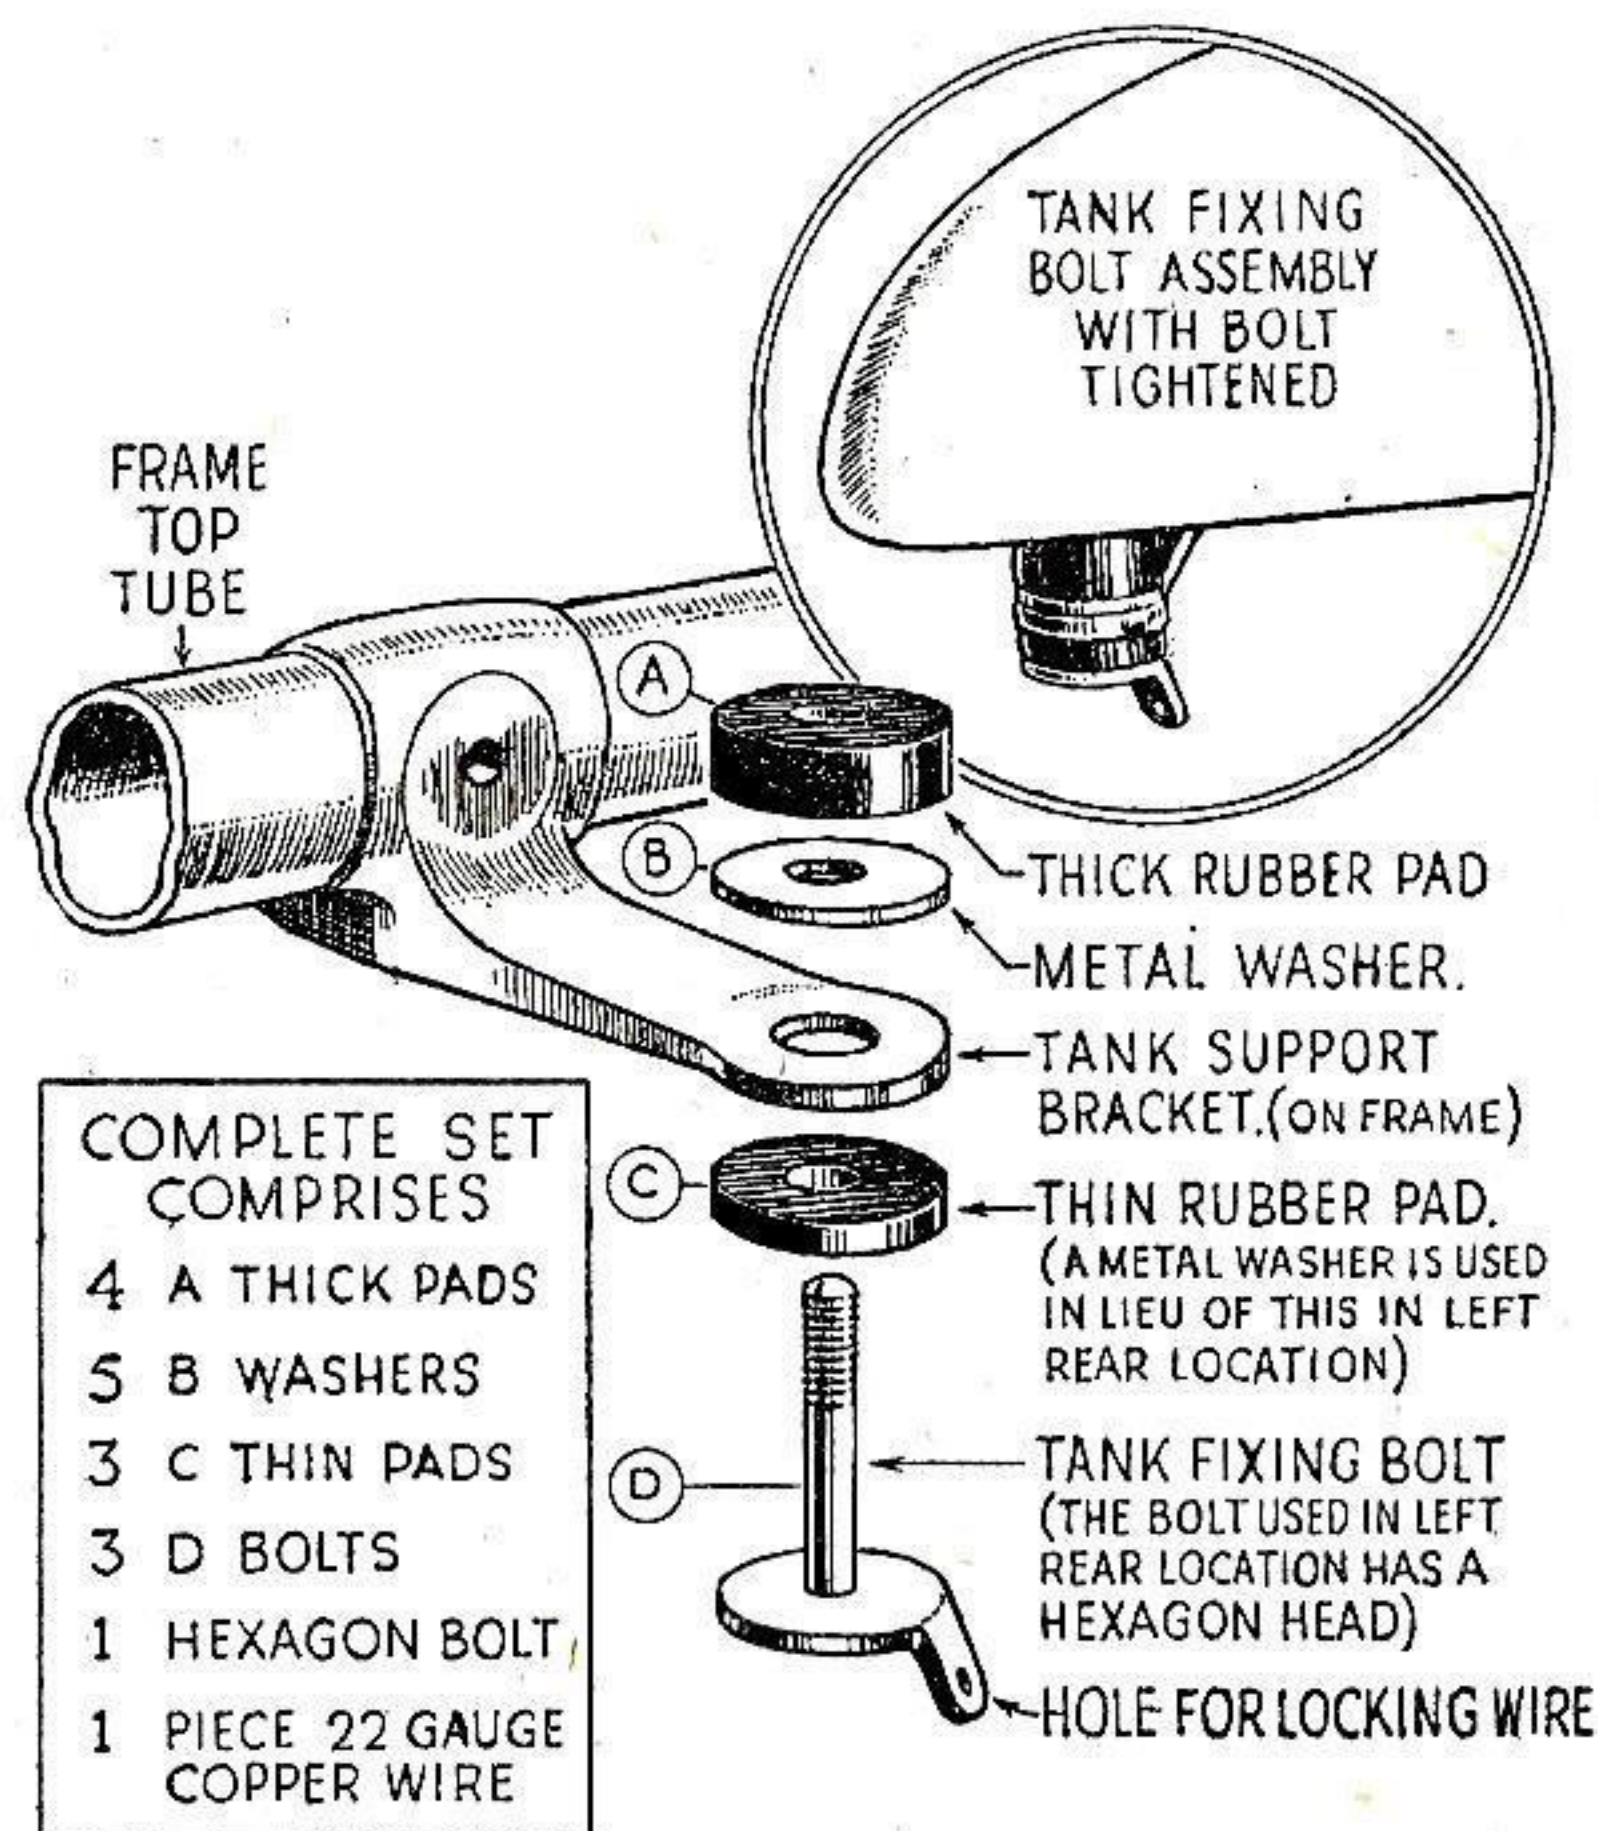

FIG. 67. DETAILS OF PETROL TANK FIXING BOLT
2. Removing Petrol Tank. It is necessary to remove the petrol tank before detaching the rocker-box and cylinder head prior to decarbonizing, also when undertaking any major engine overhaul work. The provision of two petrol taps eliminates the necessity for draining the tank prior to its removal. To remove the petrol tank, turn both petrol taps to the "Off" position. Then sever the locking wires securing the four tank-fixing bolts (see Fig. 67). Now unscrew the four fixing bolts and ease the tank clear of the frame.
20. Replacing Petrol Tank. The petrol tank is secured to the frame by four fixing bolts and a number of rubber pads and metal washers. Details of a fixing bolt assembly are shown in Fig. 67, and the correct assembly order should be carefully noted.